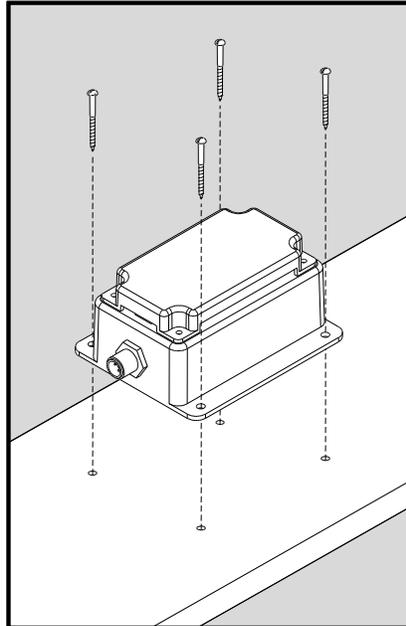

Figure 1 – Mounting the NBE100
Attach the NBE100 securely to the vessel using the included stainless steel mounting screws or other fasteners as shown in Figure 1 below. Do not use thread locking compounds containing methacrylate ester, such as Loctite Red (271), as they will cause stress cracking of the plastic enclosure.